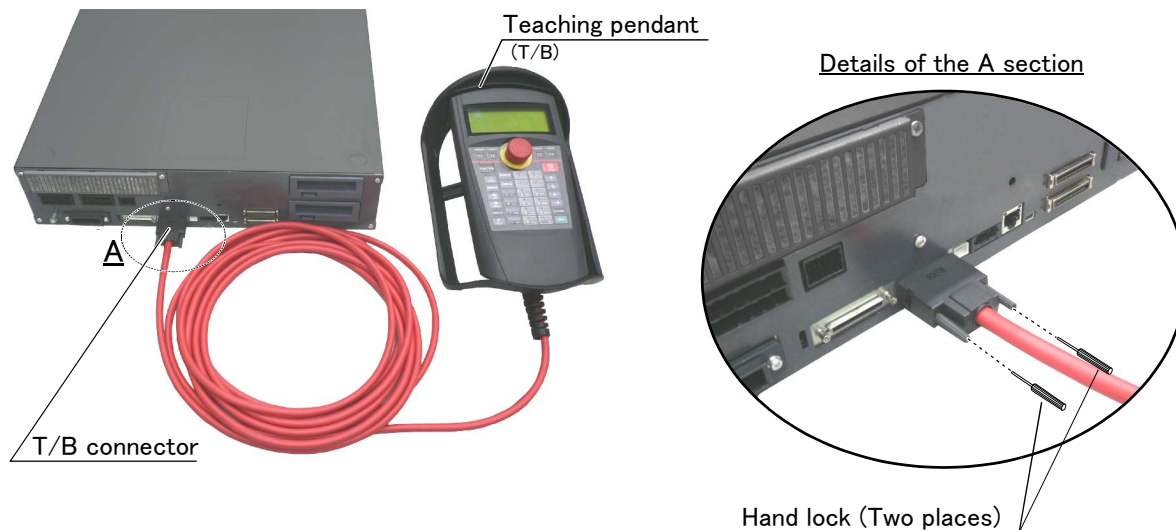

Fig. 2-10 : Installing and removing the T/B (CR751controller)
- 2) Connect the T/B connector to the controller's T/B connector. Make sure to fix it securely by fastening the hand locks (in 2 places), as shown in Fig. 2-10.